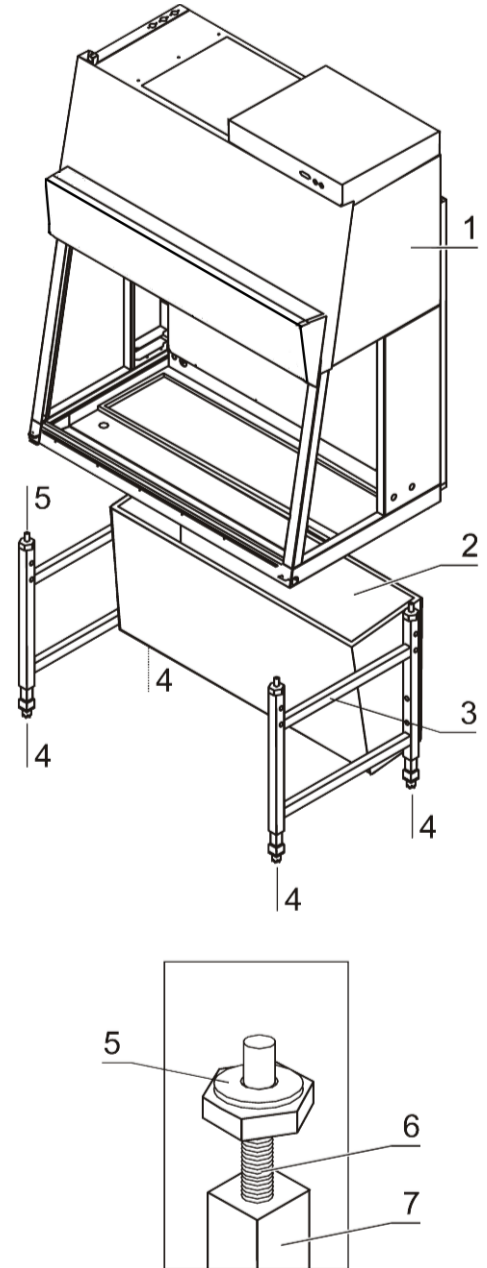

Fig. 10b
Fig. 10b: The stand [3] and the prefilter housing form an assembly. To facilitate the installation of the device frame [1], the stand is equipped with a lifting mechanism. The four columns [7] of the stand have threaded rods [6] onto which the device frame can be placed and lowered.
1. **Fig. 10b:** Unscrew the threaded rods from their hex disks [5] by approx. 10 cm and make sure their height is identical on all four columns.